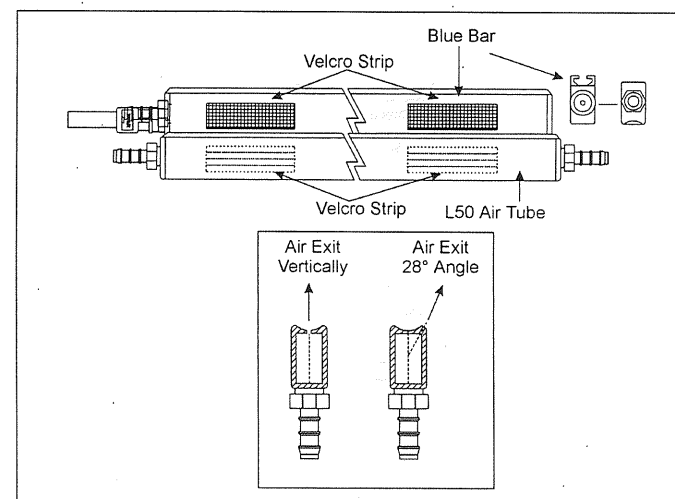

Figure 9
1. Attach Air Profile bar to one side of Blue Bar with Velcro tape (See Figure 9).